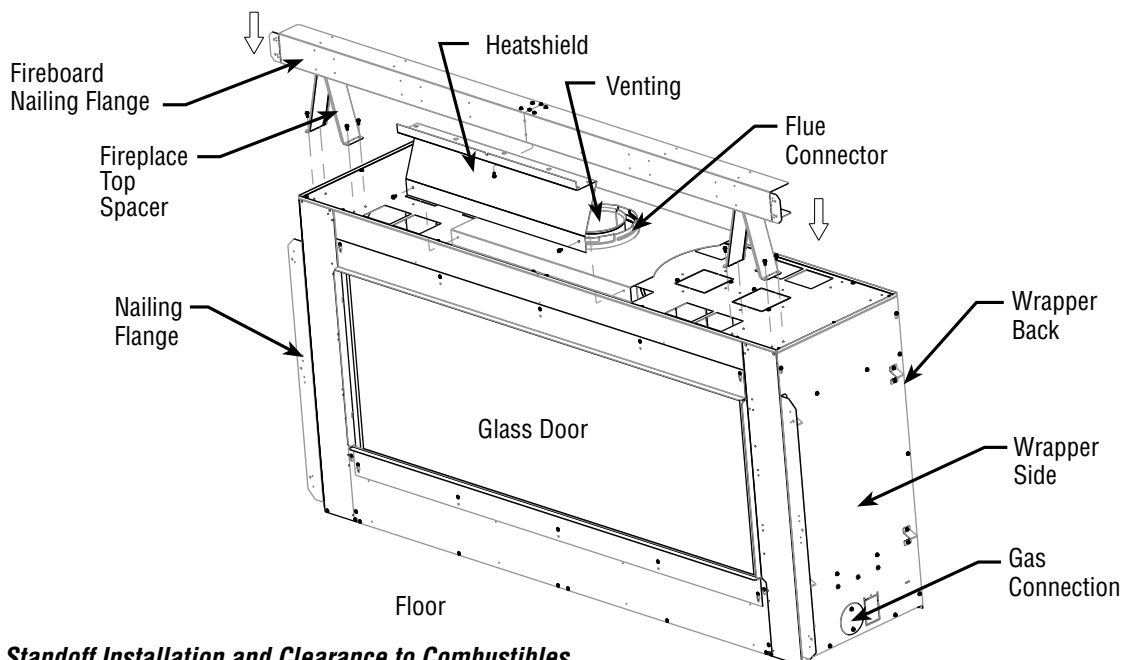

Figure 3 - Standoff Installation and Clearance to Combustibles
2. Using screws provided, attach assembly to forward portion of appliance top as shown in *Figure 3*.